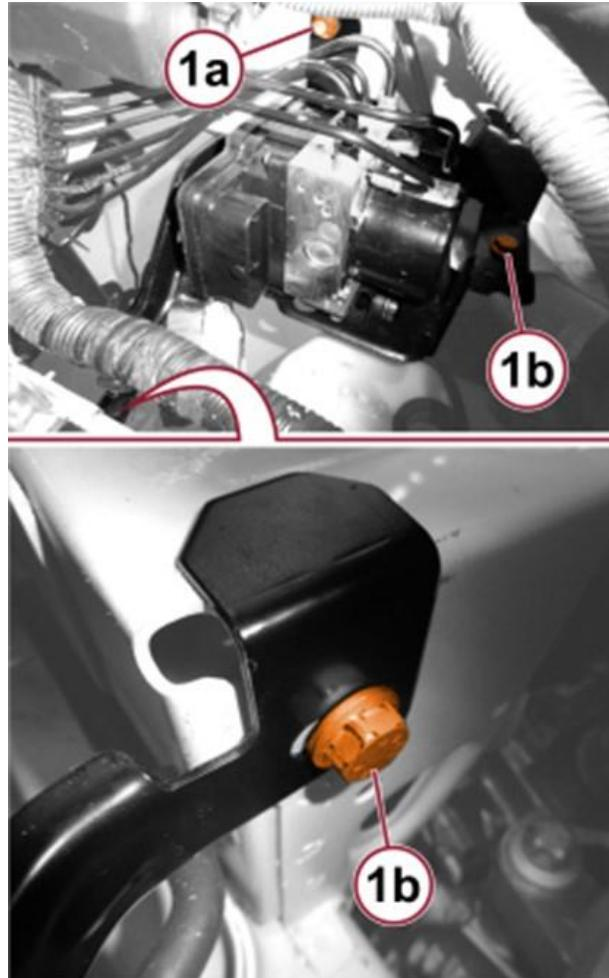

Figure 11 – Wheelhouse Liner
20. Remove the nut (1a) and the screws (1b) then remove the complete ABS control unit support bracket (Figure 11).